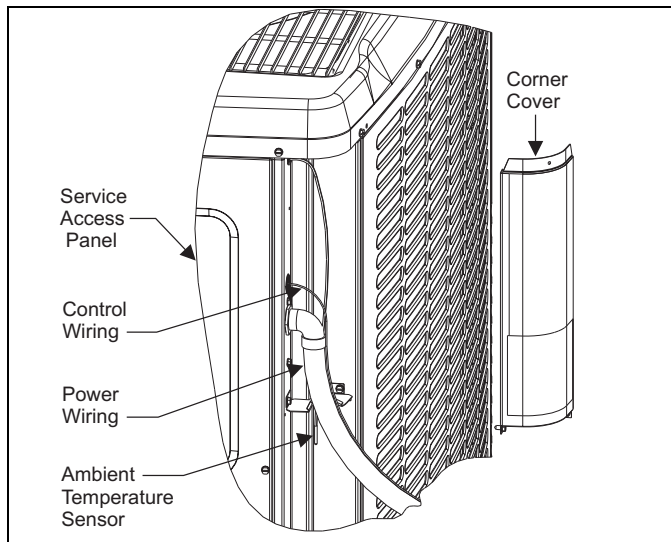
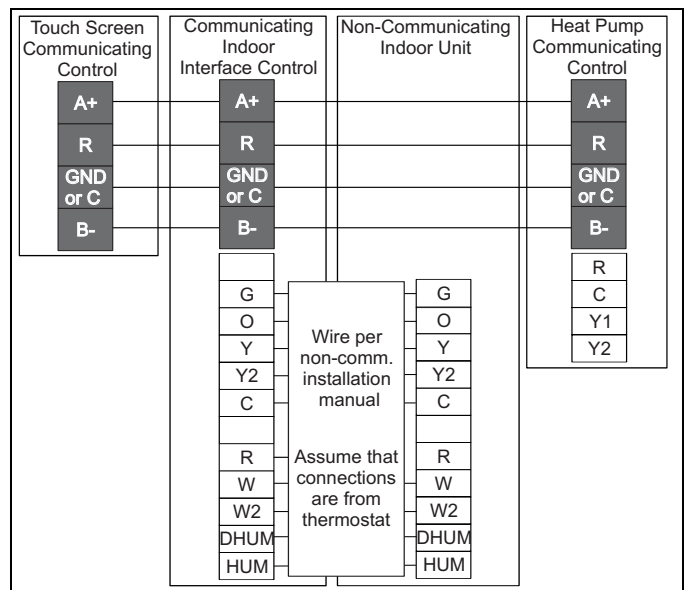

FIGURE 6: Typical Field Wiring
FIGURE 10: Communicating HP with Non-Communicating Air Handler or Furnace using Communicating Interface Control
2. Remove the screws at the bottom of the corner cover. Slide corner cover down and remove from unit. See Figure 6.
1. Route low voltage wiring into bottom of control box as shown in Figure 6. Make low voltage wiring connections inside the junction box per Figures 10 - 15.
2. Route low voltage four conductor shielded thermostat communications harness into junction box and connect to communications port on control board. See Figure 6.